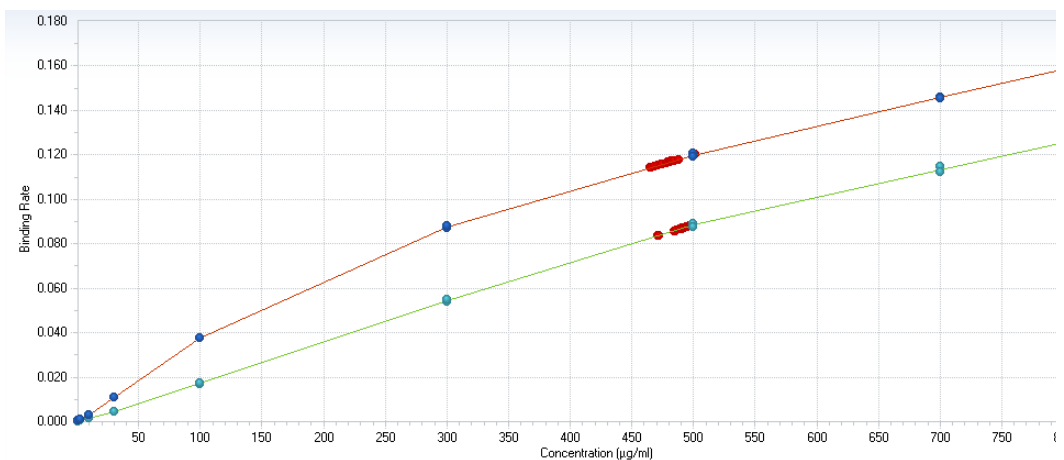

Figure 4-30: Binding Graphs by Sensor Type
- If the data or wells selected were analyzed using different biosensors, separate binding graphs by sensor type will also display (Figure 4-30).